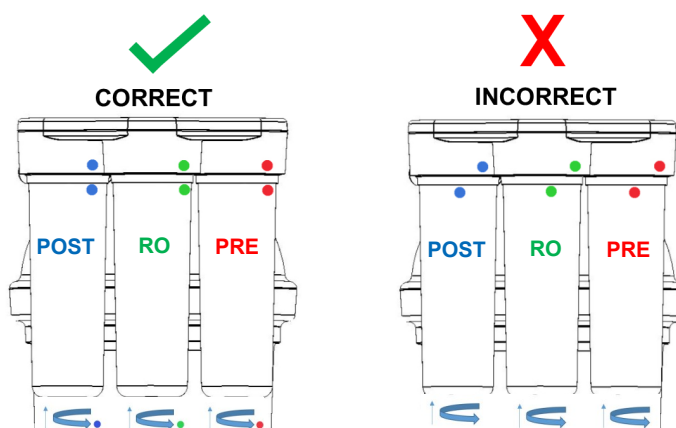

Figure 3b:
3. When installing pre-filled filters to system, you MUST make sure they are properly attached and engaged to the stop tabs per Step 3 (Figure 3b, Page 13) instructions. Filters are labeled PRE, POST and RO. Ensure each filter matches position on RO system manifold. (Figure 3b, and 3c, Page 13).